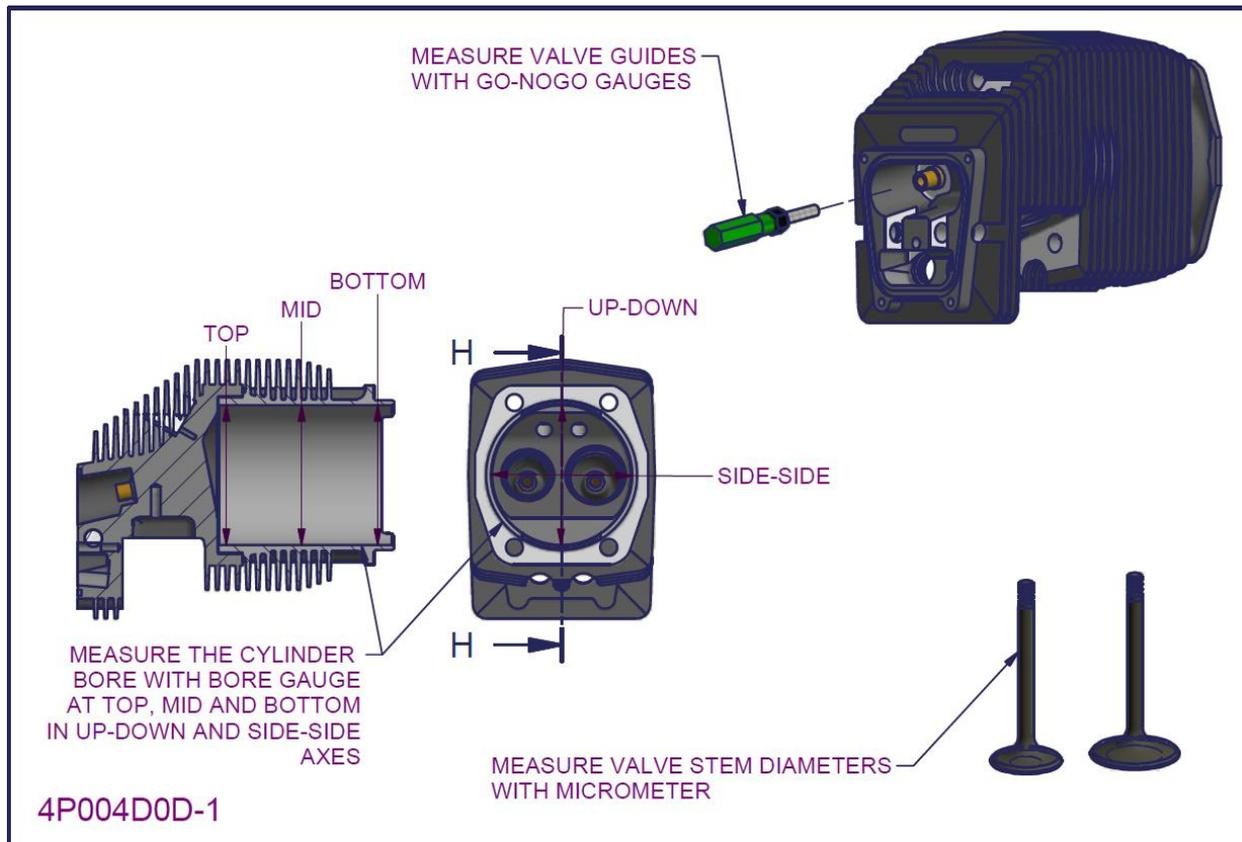

Figure 53 – 2200/3300 cylinder assembly 2
- Calculate the piston to cylinder bore clearance. This is done by subtracting the piston skirt diameter from the smallest of either the cylinder bore at mid-plane of bottom in the up-down axis (refer to Figure 53 for bore position designations).